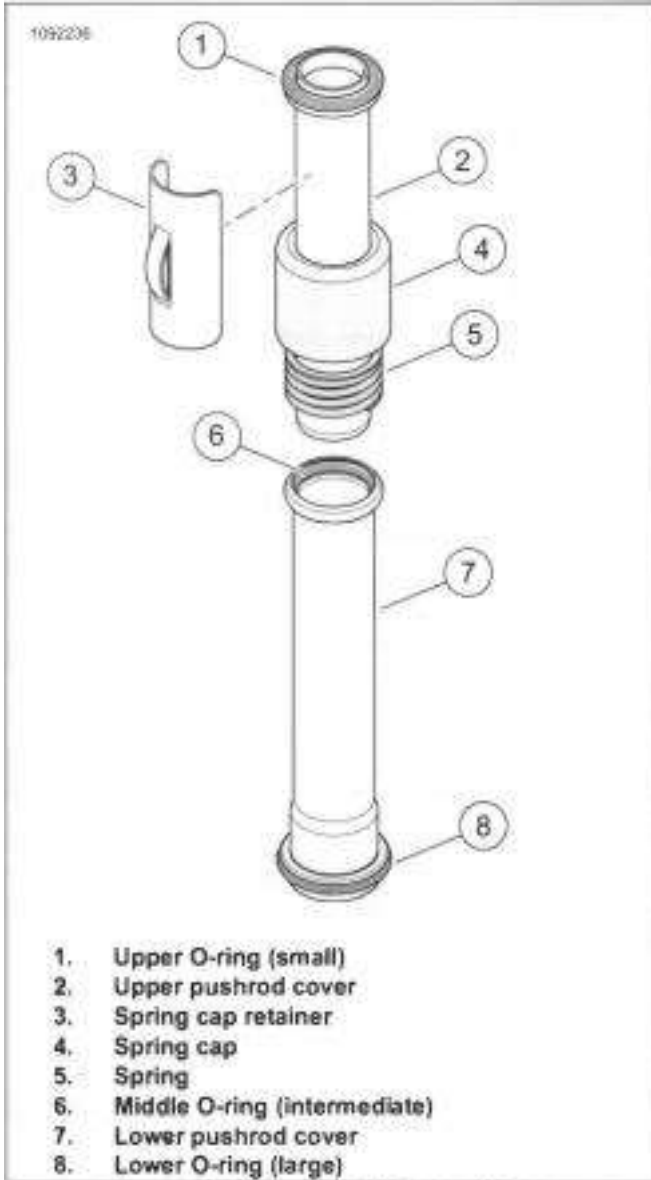

Figure 4-26. Assembled Pushrod Cover
1. See Figure 4-26. Apply a film of clean engine oil to **new** O-rings (1,6 and 8).
2. Install upper O-ring (1) on the upper pushrod cover (2).
3. Slide the spring cap (4) and spring (5) onto the body of the upper pushrod cover. Move parts up until spring cap contacts upper O-ring seat.
4. Install middle O-ring (6) into groove on top of lower pushrod cover (7).
8. Install lower O-ring (8) on lower pushrod cover.